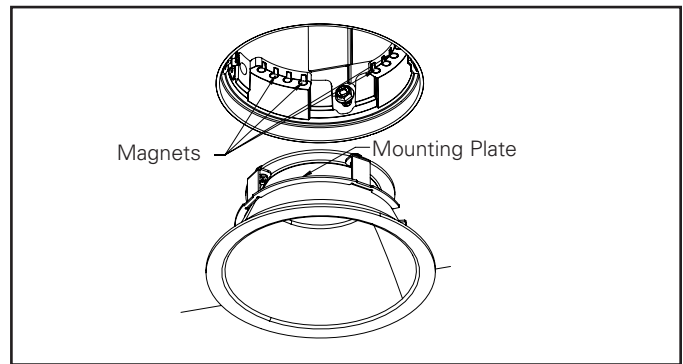

Figure 22.
6. Align mounting plates with magnets and place trim against ceiling (Figure 22).